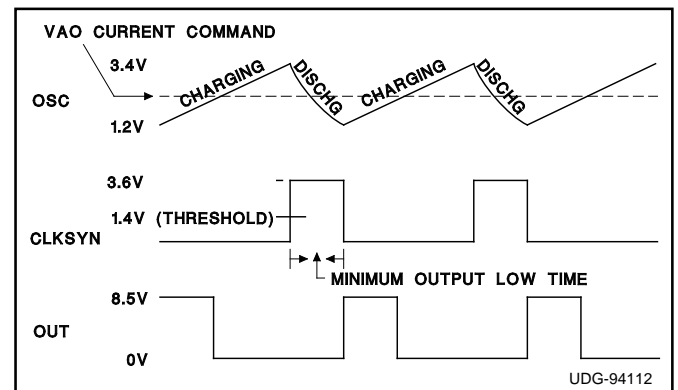
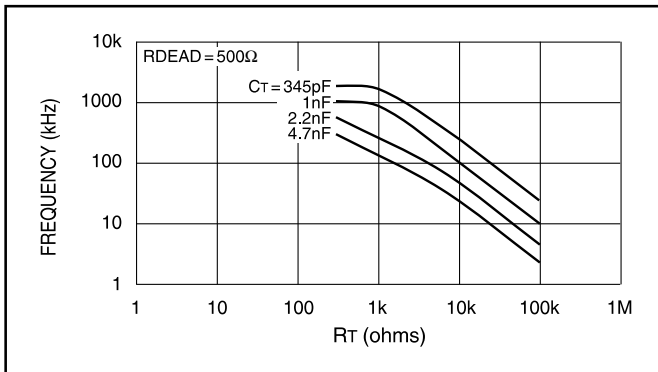

Figure 2. Oscillator and PWM Output Waveform
Figure 3. Output Frequency
The timing capacitor (CT) is linearly charged with the charge current forcing the OSC pin to charge to a 3.4V threshold. After exceeding this threshold, the RS flip-flop is set driving CLKSYN high and RDEAD low which discharges CT. This discharge time with the RC time delay of $2 \cdot C_T \cdot R_{DEAD}$ is the minimum output low time. OSC continues to discharge until it reaches a 1.2V threshold and resets the RS flip-flop which repeats the charging sequence as shown in Figure 2. Equations to approximate frequency and maximum duty cycle are listed under the OSC pin description. Figure 3 and 4 graphs show measured variation of frequency and maximum duty cycle with varying RT, CT, and RDEAD component values.